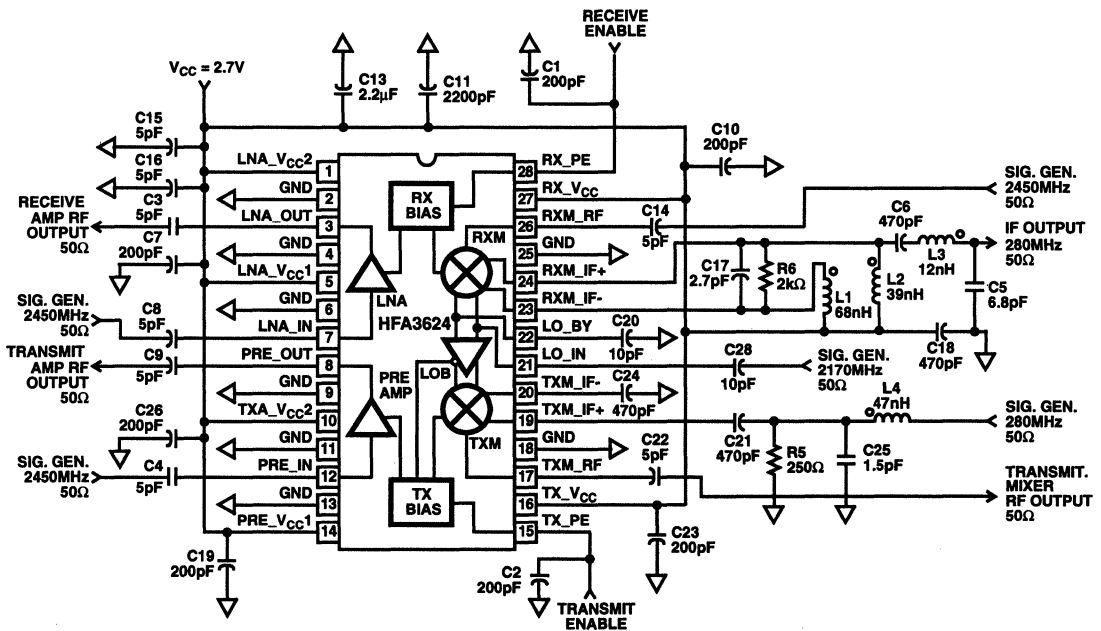

FIGURE 5. OPTIMIZED LAB EVALUATION CIRCUIT
2. See Figure 5 Test Circuit for 50Ω IF matching network component values.
4. Transmit mixer measured with Impedance Transform Network 250Ω at device to 50Ω at the source. Refer to Figure 5, pin 19.
5. Implied limit, production measurement uses 50Ω termination at pin 19 (RS_{IF} = 50Ω). Typical transmit conversion gain increase of 5.5dB with application circuit Figure 5 (RS_{IF} = 250Ω).
7. Enable/Disable Time Specifications are tested with the external component values shown in the Figure 5 Test Circuit, with an IF frequency of 280MHz. Specifically the AC coupling capacitors on the TXM_IF+ and TXM_IF- pins are biased up to operating voltage from a fixed internal current source at power up. Increasing these AC coupling capacitors above 1000pF will slow Enable Time proportionately.
NOTE: Transmit mixer measured with Impedance Transform Network 250Ω at device to 50Ω at the source. Refer to Figure 5, pin 19.